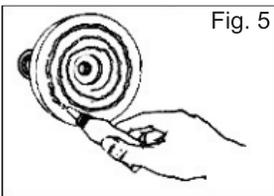

Fig. 5
3. Cover the entire flat surface of the disc with a thin layer of adhesive. (Fig. 5)